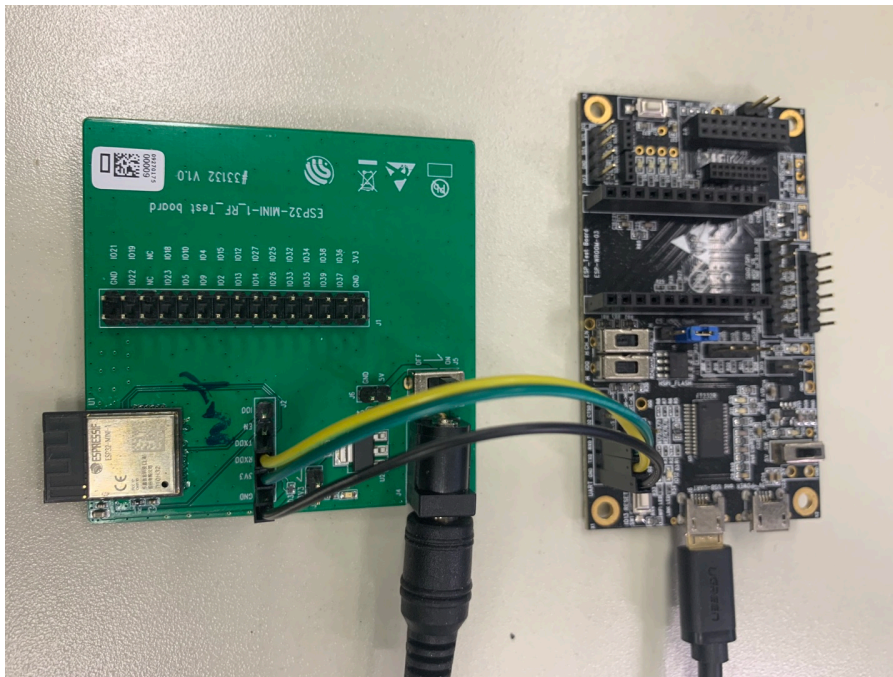

Figure 2: Hardware Connection
1. Solder the ESP32-S3-WROOM-1 or ESP32-S3-WROOM-1U module to the RF testing board as shown in Figure 2.